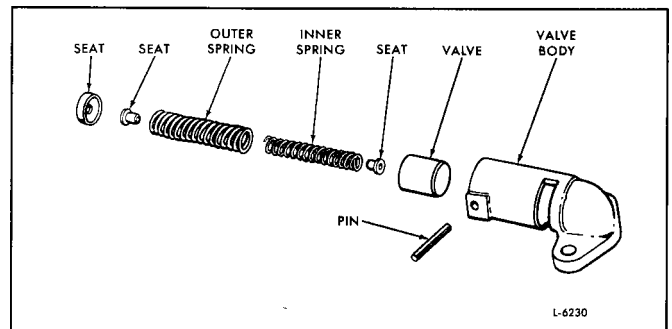

Fig. 6 - Current Oil Pressure Relief Valve Details and Relative Location of Parts
innerspring seats, outer spring, spring seat and a pin to retain the valve assembly within the valve body (Fig. 6).
2. Insert the spring in the valve and install the spring seat. If the current high output valve assembly is used, insert the inner spring inside the outer spring with an inner spring seat on each end of the inner spring. Insert one end of this assembly into the valve and install the spring seat (Fig. 6).
2. Insert the spring in the valve and install the spring seat. If the current high output valve assembly is used, insert the innerspring inside the outer spring with an innerspring seat on each end of the innerspring. Insert one end of this assembly into the valve and install the spring seat (Fig. 6).